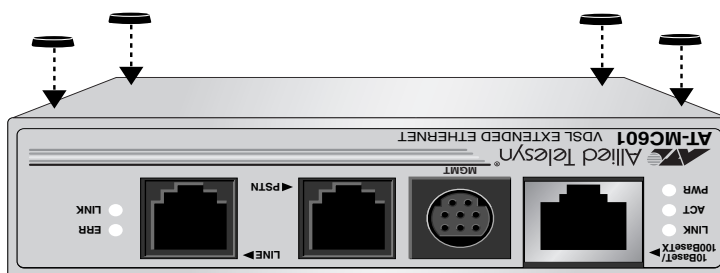

Figure 6 Attaching Protective Feet to the Subscriber Unit
2. Attach the four protective feet (provided) to each corner of the bottom of the unit, as illustrated in Figure 6.